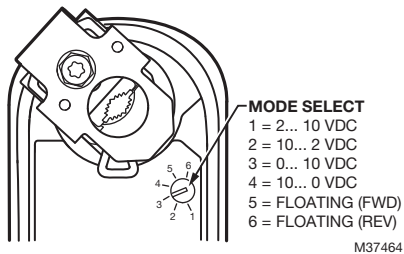

Fig. 5. Dials for control signal.
Selections are made using a dial that appears on both the front and back of the actuator (see Fig. 5).
3. Set "Mode Select" dial to desired control signal. (See Fig. 5.)